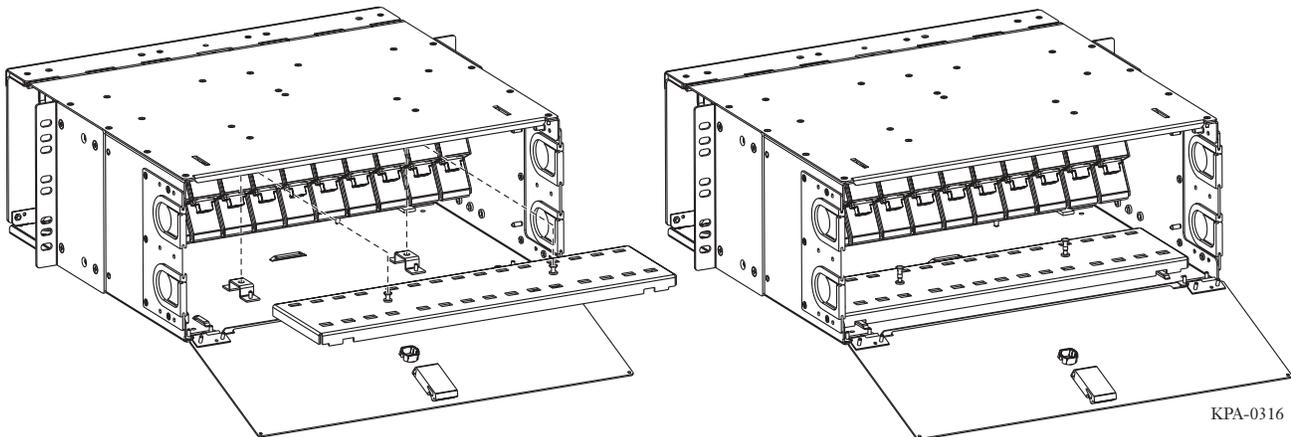

Figure 3 — Install the Clip Plate
- Step 3** Pull up on the plunger fasteners on the clip plate, insert the plungers into the two mounting brackets in the base of the housing (Figure 3), and press down on the plunger fasteners to secure the plate to the base. Repeat to install a second clip plate in the ceiling of the housing, if required.